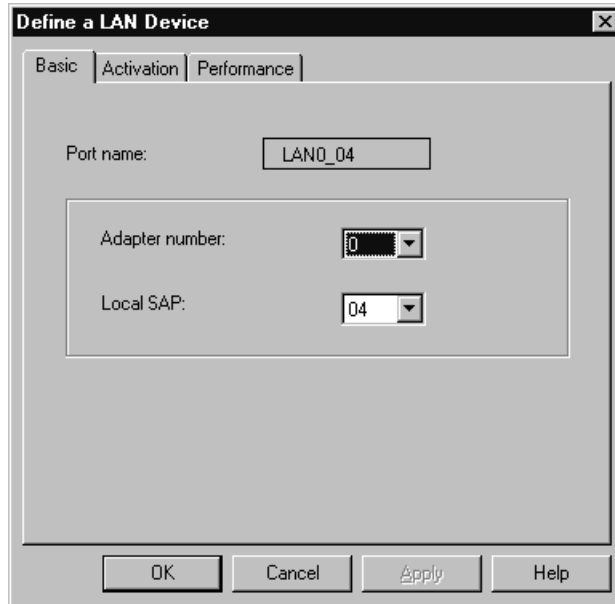

Figure 97. Define a LAN device: basic page
- 3 On the Basic page, use the values that are shown in Figure 97 for the following fields: